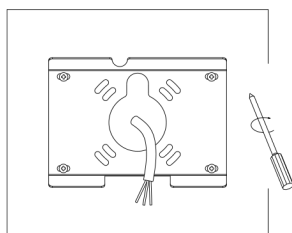

Figure 1-3
- 3.Align mounting bracket with hole; tighten screws. (Figure 1-3)